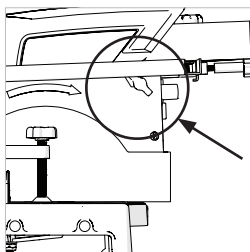

Fig. 23a
- Ensure that the table is at its lowest setting **(see Fig. 23a & 23b)**
1. Adjusting the Table Height (Fig. 23a & 23b)